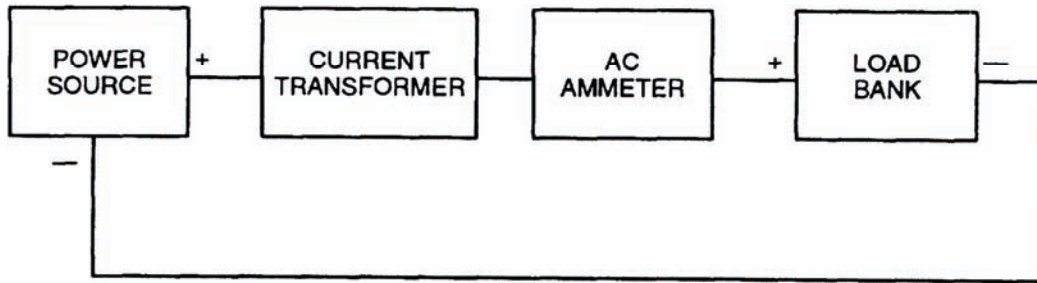

Figure 4-4. Testing Current Transformer.
- d. Set up a test circuit using 10 gauge wire (Figure 4-4). Make ten passes with wire through phase A window.